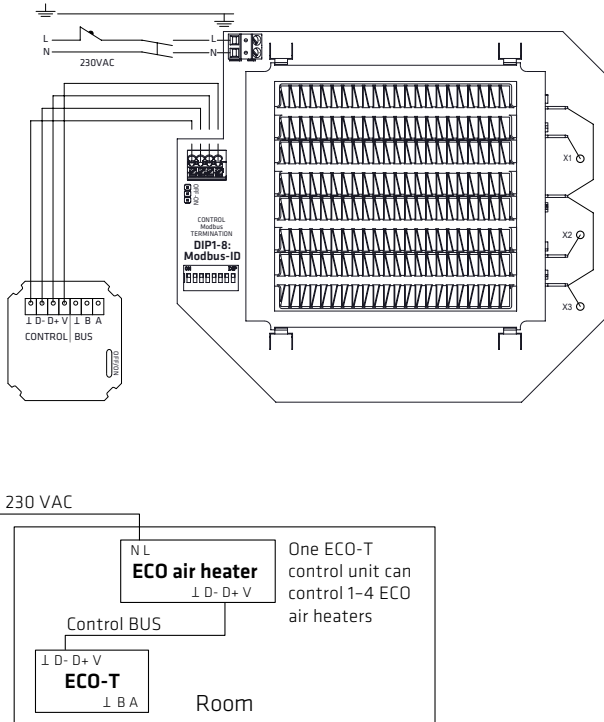

Figure 3.2
1. NOTE! Run the 230 V supply voltage to the device through a double-pole switch. Connect the supply voltage to connectors N and L in the electronics section of the terminal device, as shown in Figures 3.2 and 3.3.
2. Connect the ground to the terminal device's separate ground connector, as shown in Figures 3.2 and 3.3.
3. Connect the ECO series terminal device to the controller with the data cable, as shown in Figures 3.2 and 3.3.